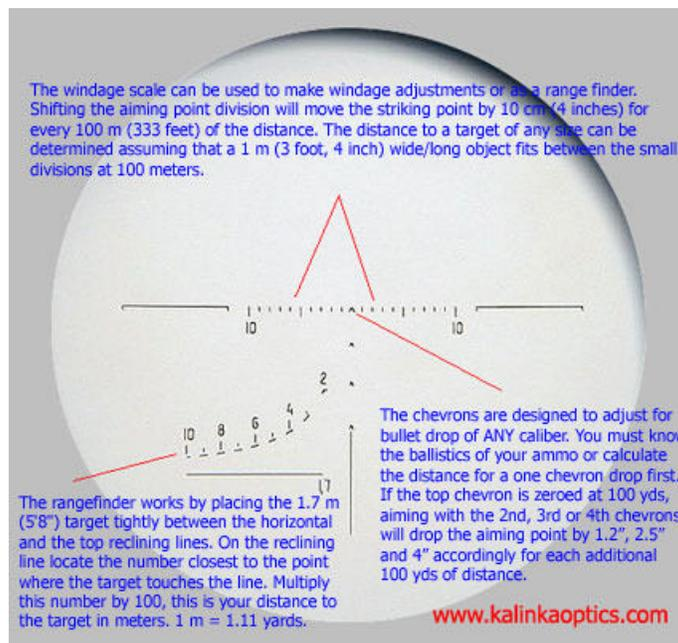

Fig. 1. Determination of mean point of impact (MPI): 1 - by consequent division of lines; 2 - with symmetrical arrangement of hits. CTR means MPI
- The rifle is test-fired by four shots, aiming thoroughly and uniformly with the aid of the open iron sight. Fire is conducted at the black rectangle, 20 cm wide and 30 cm high, secured on a white board, 1 m high and 0.5 m wide. The point of aim is the middle of the black rectangle bottom edge. During firing when the open sight is used the normal position of the MPI is marked with chalk or a colored pencil by the plumb line, 16 cm above the point of aim. This point serves as the check point (CP). The range is 100 m. Firing is conducted from the in any method that provides adequate support. To test-fire and zero a rifle, use should be made of cartridges with ordinary bullets having a steel core. Fire is conducted with the knife bayonet removed. Upon firing the shots, examine the target and arrangement of hits; determine accuracy of fire and position of the MPI. The rifle fire accuracy is considered normal, if all the four hits are arranged within the circle, 8 mm in diameter.
- If the shot group does not meet the requirements, test-firing is repeated. If the shot group is found normal, determine the MPI and its position relative to the check point. Determination of the mean point of impact is shown in Fig. 1. The rifle fire accuracy is considered normal, if the mean point of impact coincides with the check point or deviates from it in any direction by no more than 5 cm.